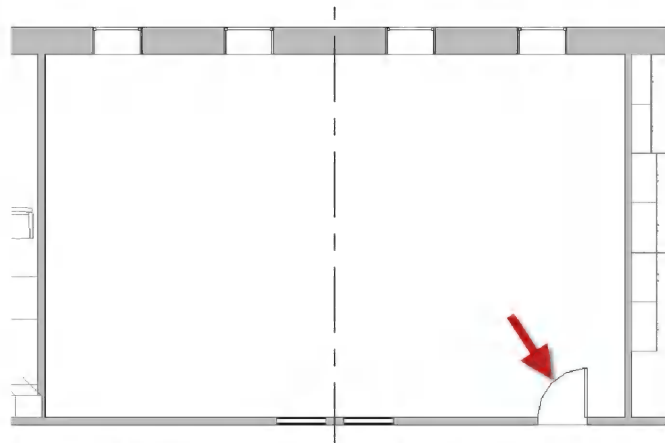

FIGURE 16-3.11 Door added in Level 1 – New floor plan view
30. In the Level 1 – New floor plan view, add a **Door** as shown in Figure 16-3.11.